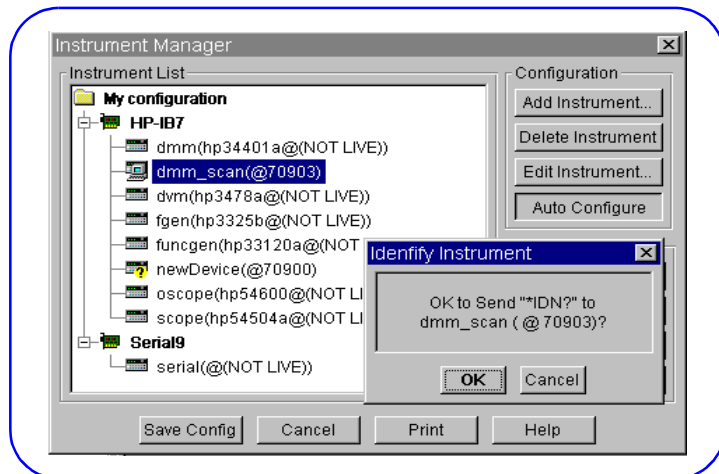

Figure 33. HP VEE Instrument Manager - Auto Configure
- 4 To verify communication with the HP E1411B, highlight the *dmm_scan (@70903)* line and then click *Auto Configure* to display an *IDN? message box similar to Figure 33.